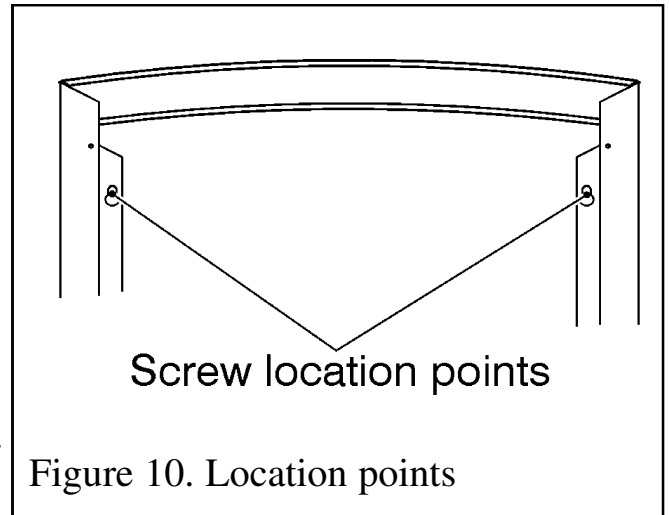

Figure 10. Location points
2. Mark the upper positions of the key hole slots on the rear wall (See figure 10).